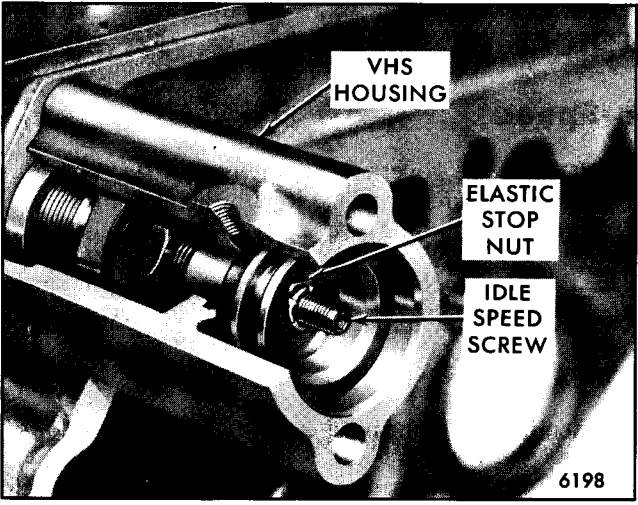

Fig. 2 - Adjust Elastic Stop Nut using Tool J 28598-A
- b. Adjust the elastic stop nut, while holding the idle screw stationary, until a slight drag is felt on the shim (Fig. 2). This adjustment is made easily with Tool J 28598-A.